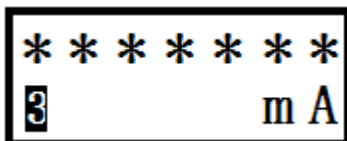

Figure25
2.5 Enter "Right" once, the display the third variable "output current value", unit "mA" and their series number, as shown in Figure 25;